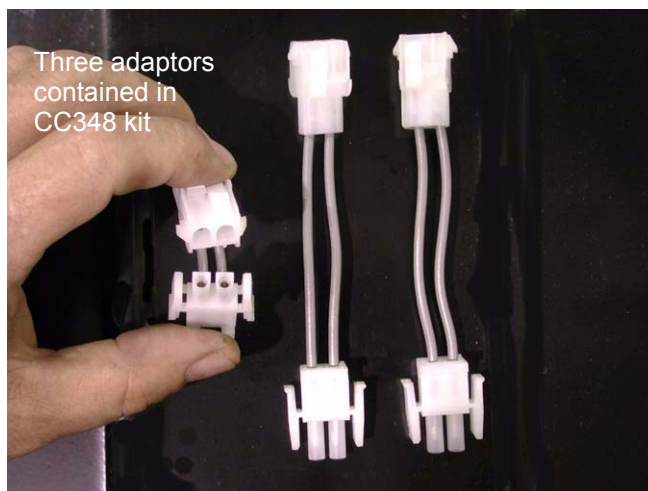

Figure 2.1
- 2.1. The service kit consists of three adaptors that reverse the polarity of the connections. See Figure 2.1.